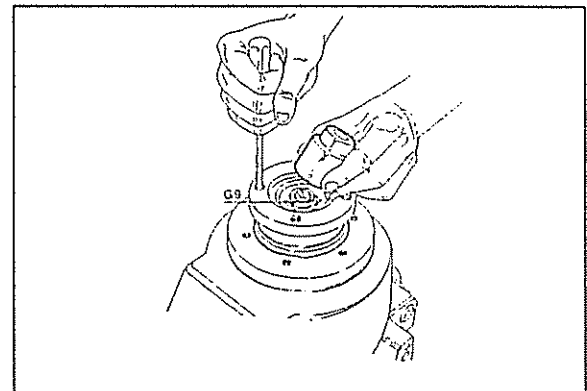

Figure B12
3.4 Turn the transmission so that the output coupling flange (T5-2 #99) is up and facing toward you. Figure B12.